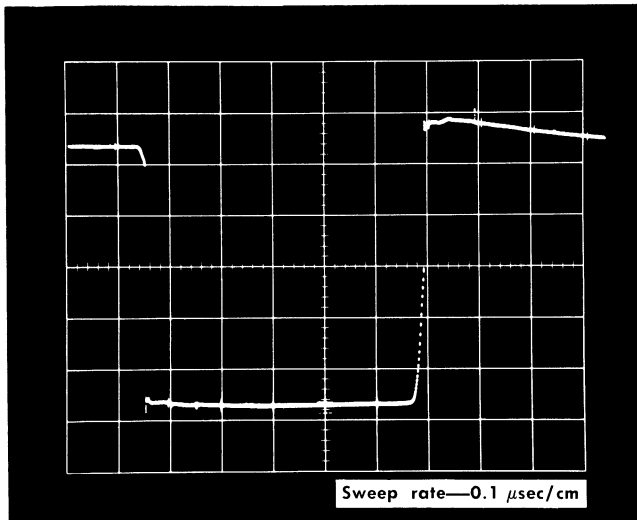

Fig. 5-6 Typical waveform for checking Delayed Pulse Bias adjustment.
- e. **Check** the Delayed Pulse waveform for a shape similar to that shown in Fig. 5-6. Both the fall and the rise of the pulse should be stable.